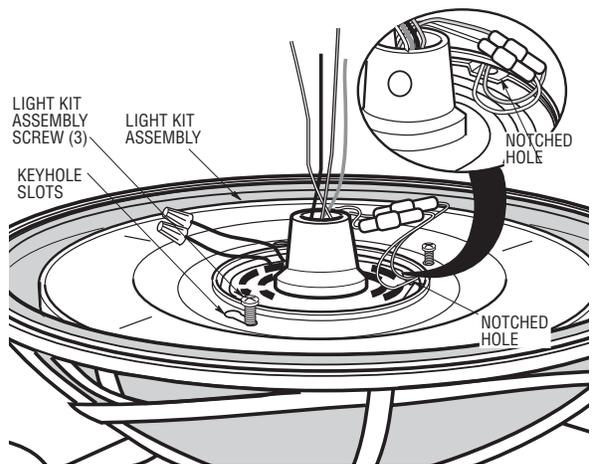

Figure 10
- 17. Unscrew and save one of the three screws in the light kit adapter. Position the light kit assembly onto the light kit adapter, making sure the wires are positioned through a notched hole before securing (Figure 10).
- 18. Rotate the light kit assembly so that the two screws engage in the keyholes slots. Secure the light kit assembly to the light kit adapter by threading the previously removed screw into the remaining hole. Tighten the three screws securely at this time. (Figure 10).